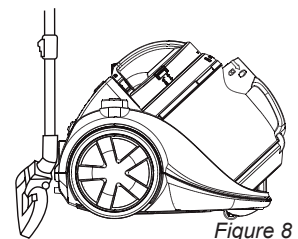

Figure 8
- Retract the telescopic tube completely. An attachment slot is fitted to the back of the vacuum cleaner (see Figure 8). Slide the backside of the combi nozzle into the slot. This avoids the need to dismantle the vacuum cleaner after use; you can store the assembled appliance and retrieve it again quickly when you need it.